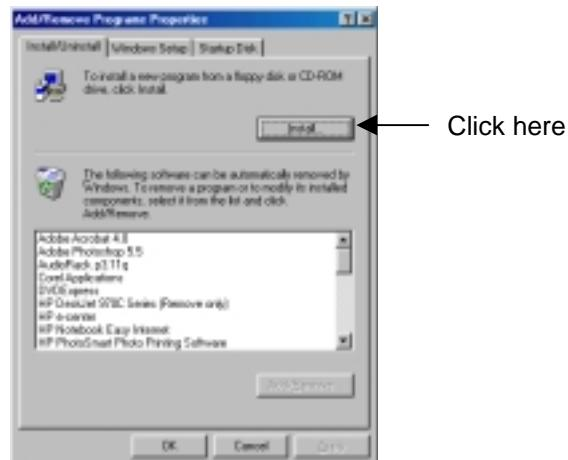

Figure 2.3 Add/Remove Programs Properties Window
- e. Click the Install button located at the top of the window (Figure 2.3).